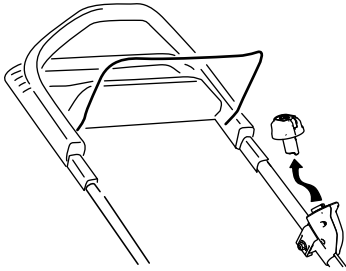

Figure 24
1. Remove the electric-start button (Figure 24).